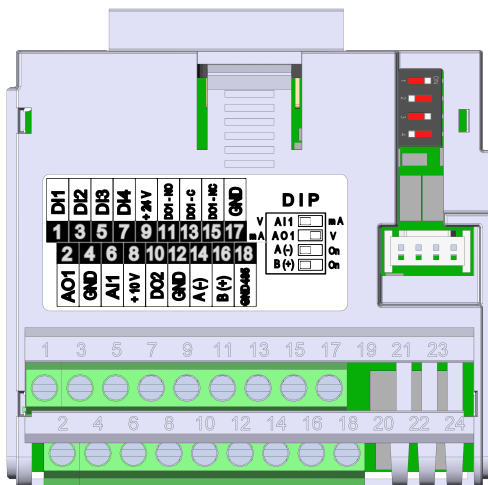

Figure 20.1: Plug-in module CFW500-IOS
The CFW500-IOS plug-in module has only Serial (1) interface through RS-485 port at terminals 14 (A-) and 16 (B+), see Figure 20.1 on page 20-1. See also, the GND485 on terminal 18 is isolated from GND on terminals 17 and 4.